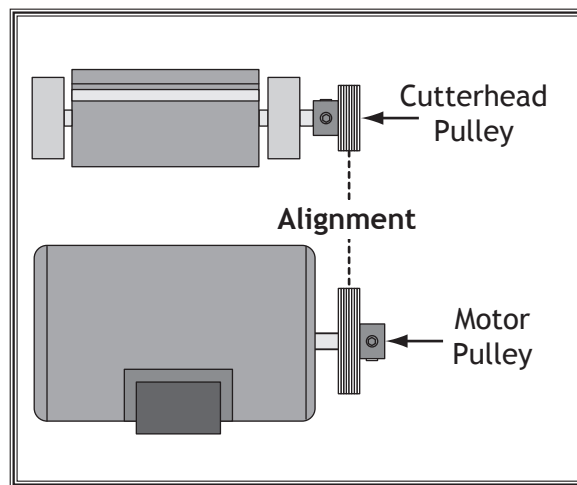

Figure 67. Proper pulley alignment.
6. Tighten set screws, replace belt, and repeat **Step 3** to verify proper pulley alignment. Pulleys should be aligned, as shown in **Figure 67**, when belt is properly tensioned.